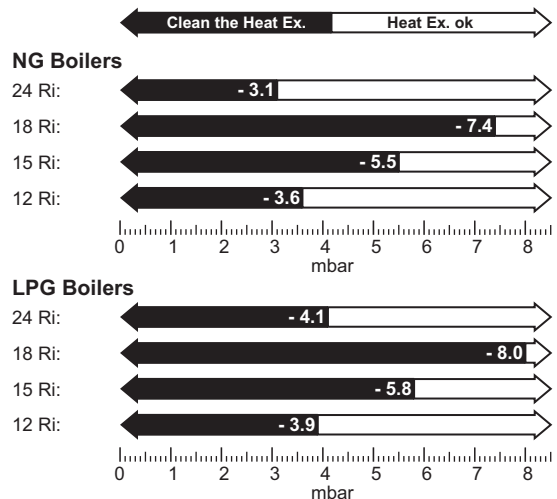

Fig. 60 Fan pressure readings
- ▶ The pressure will read negative, refer to the chart in figure 60.